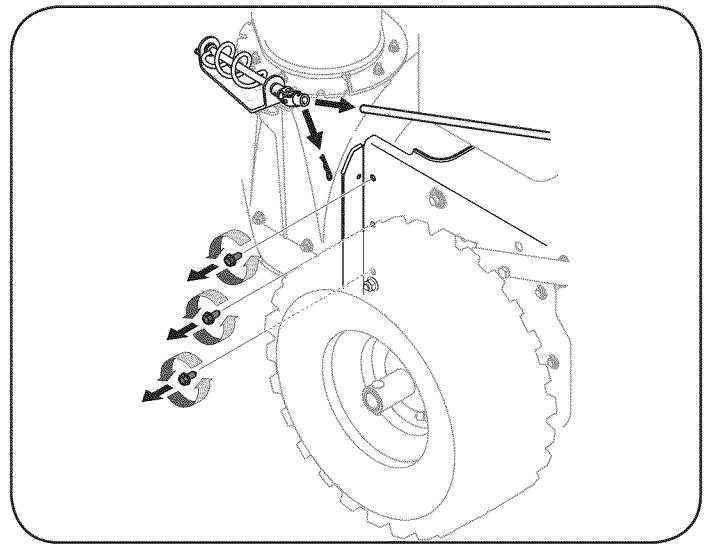

Figure 29
1. Remove the chute crank rod from the chute crank assembly by removing the hair pin clip shown in Fig. 29. Move the chute crank rod away from the assembly as shown.
2. Remove three self-tap screws on both sides of the transmission housing as shown in Fig. 29.
- From both sides of the the frame assembly, use a 1/2" wrench to remove the three hex tap screws securing the frame to the auger housing assembly. Refer back to Figure 29.